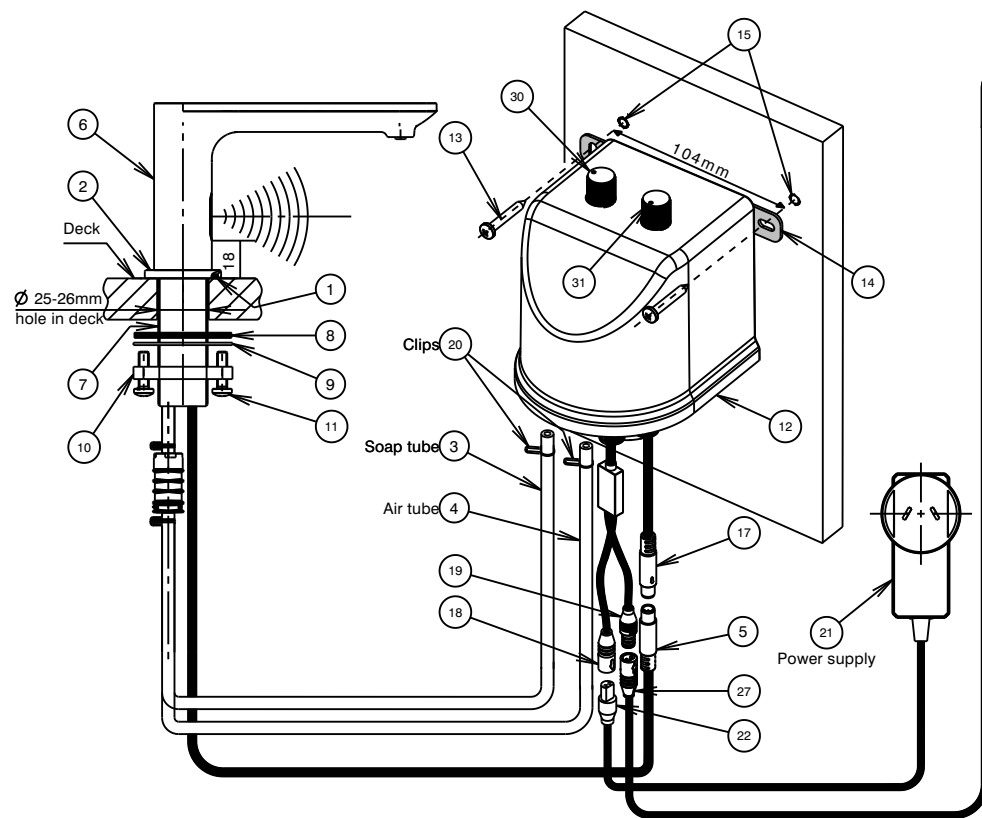
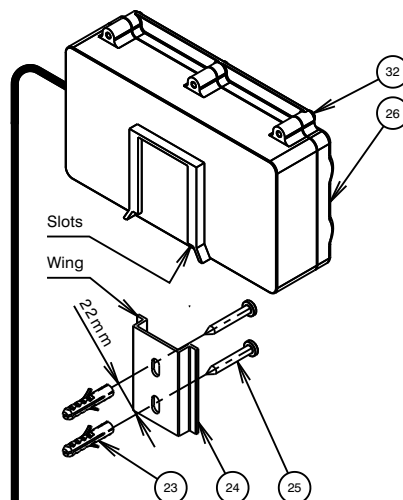
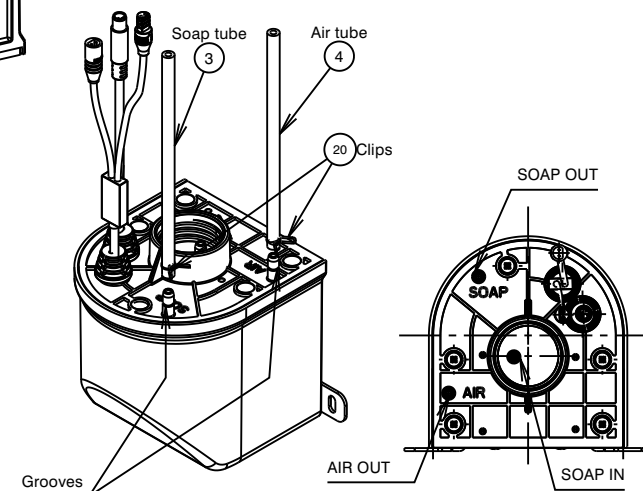

Fig. 2 - Sensor unit installation
Fig. 6 - Battery box installation
Fig. 5
- 1) Ensure 'O'ring (1) is fitted into groove in base ring (2).
- 2) Insert the soap tube (3), air tube (4) and sensor cable (5) through the hole of base ring (2). Pass base ring (2) through threaded tube (7) until the base ring (2) sits against bottom of sensor body (6).
- 3) Insert soap tube (3), air tube (4) and sensor cable (5) through the hole in the deck. Insert threaded tube (7) into deck hole, orientate sensor body as required. From under the deck, Insert soap tube (3), air tube (4) and sensor cable (5) through flat seal (8), washer (9) and clamp ring (10) in order, then fit flat seal (8) followed by washer (9) over threaded tube (7) as shown in Fig. 2. Screw clamp ring (10) onto threaded tube (7) until it contacts washer (9) & the flat seal (8) has contacted the underside of the deck. Tighten two screws (11) equally until sensor assembly is clamped firmly to the deck. DO NOT OVERTIGHTEN.
- i) Drill two Ø6mm holes, 40mm deep and 22mm apart vertically as shown in Fig. 6.
- ii) Insert small end of wall plugs (23) into drilled holes and tap until flush with wall/tile face.
- iii) Align the slots on bracket (24) with the holes on the wall, pass the screws (25) through the slots and insert into the wall plugs (23). Then tighten the screws. DO NOT OVERTIGHTEN.
- iv) Mount the battery box (26) onto wings of bracket (24).
- i) Drill two holes at 22mm apart vertically to suit the self tapping screws supplied as shown in Fig. 6.
- ii) Align the slots on bracket (24) with the holes on the wall, pass the screws (25) through the slots and insert into the holes in the stud. Then tighten the screws. DO NOT OVERTIGHTEN.
- iii) Mount the battery box (26) onto wings of bracket (24).
a) **Soap tube and air tube connections, (Fig. 2 & Fig. 5):**
b) **Sensor cable connection, (Fig.2):**
By aligning the profile of connectors (5) & (17), connect the sensor cable (5) from the outlet to the end of sensor cable (17) of soap control unit as shown in Fig. 2.
While aligning the 'D' profile of male and female connectors Connect male connector of power cable (22) to female connector (18) of soap control unit (12) as shown in Fig. 2. Connect male connector (19) from control unit (12) to female connector (27) of battery box (26). Ensure all cable connectors are pushed in fully.
7) **Adding/Replacing batteries, (Fig. 6)**